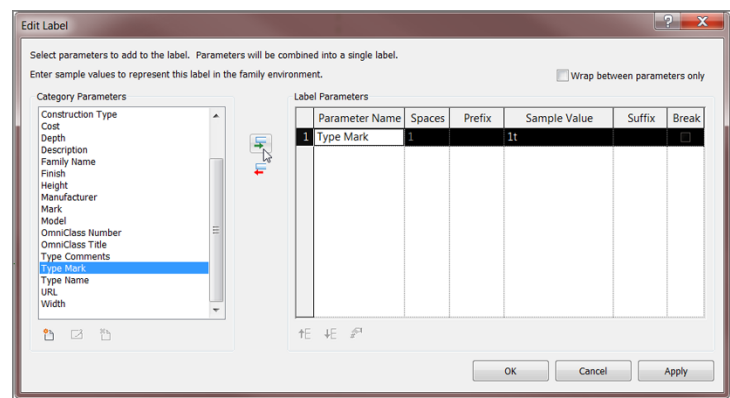

FIGURE 11.76: Adding the Type Mark parameter
- 11. In the middle of the Edit Label dialog, click the Add Parameter(s) To Label button. The Type Mark parameter should appear in the right field, as shown in Figure 11.76.